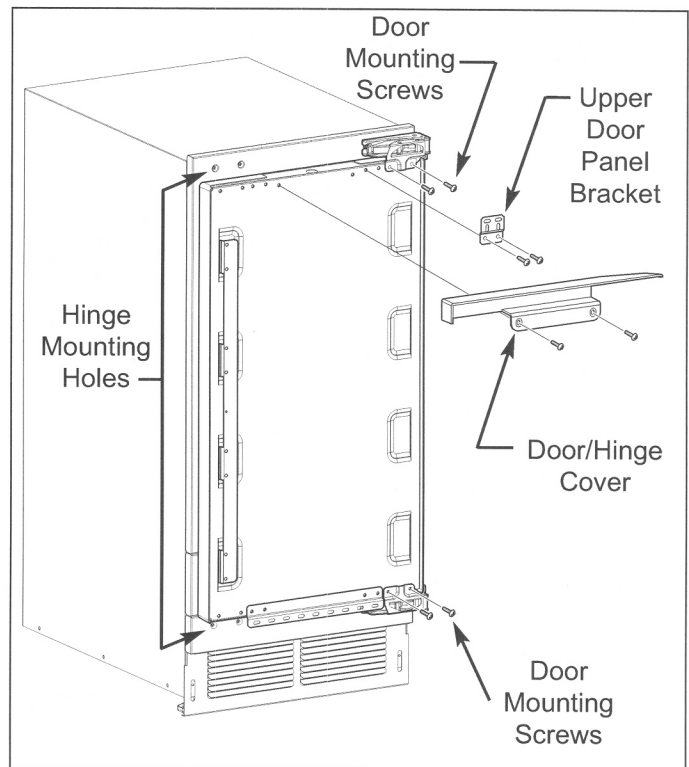

Figure 2-7.
2. Remove door/hinge cover (top hinge-RH) from top of door by extracting the two mounting screws from face of door. (See Figure 2-7)
3. Remove door from hinges by extracting the four door mounting screws, two at bottom hinge, two at top hinge. (See Figure 2-7)
5. Extract the four filler screws from opposite (left) hinge mounting holes in cabinet (See Figure 2-7) and insert them into right-hand hinge mounting holes of cabinet.
8. Extract two screws which secure upper door panel mount bracket to top right of door, then reattach bracket to top left of door utilizing left-hand mounting holes. (See Figure 2-7)